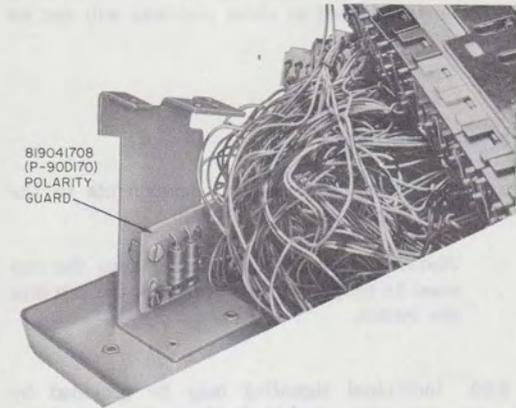

Fig. 4—2831-Type Telephone Set with 819041708 (P-90D170) Polarity Guard Installed
3.05 Polarity guard (2831-type except the 2831DM; see 3.06) should be used only when specified by local instructions for end-to-end signaling installations where battery and ground reversals may be encountered. An 819041708 (P-90D170) polarity guard assembly is installed on the right key bracket (Fig. 4) with screw provided or an 819041971 (P-90D197) polarity guard assembly (adhesive backed) is installed wherever space permits. Connect per Table E.